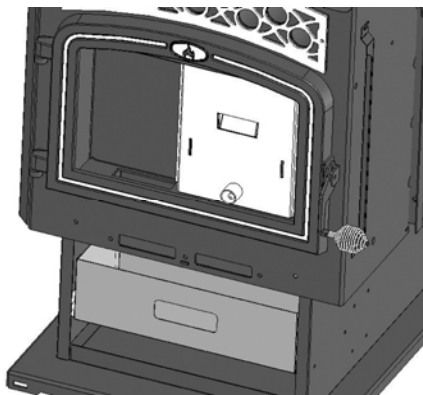

Figure 5
5. Re-install center panel at back of firebox, aligning tube around igniter probe. Figure 5.